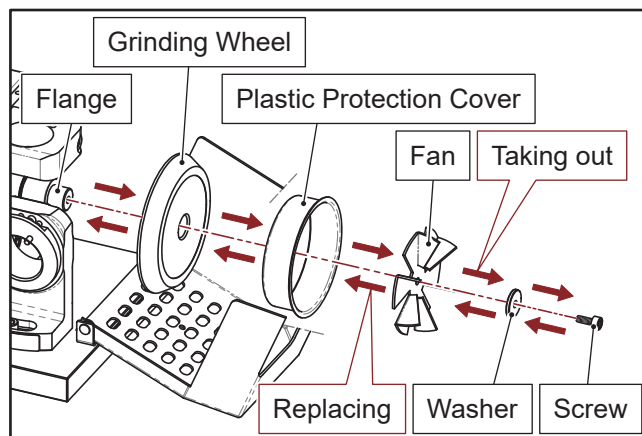

Fig. 16-3
④ Loosen the screw from the grinding wheel to take off the grinding wheel. (Fig. 16-3)
⑤ Use clean cloth to clean the flange and the contact surface of the grinding wheel.
⑥ Replace the new grinding wheel and fasten the screw. (Fig. 16-3)